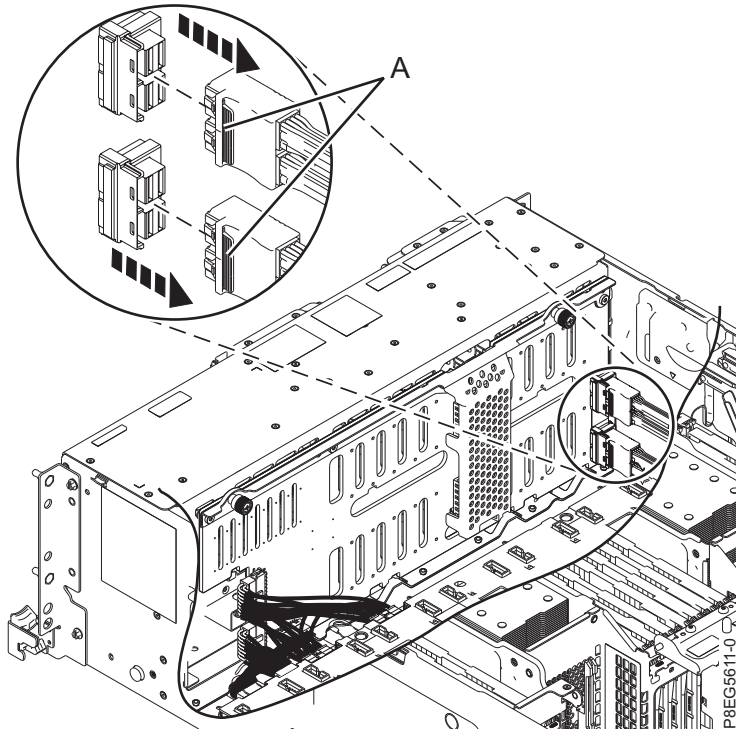

Figure 60. Disconnecting the front SAS cables
5. Label the front SAS cables, paying attention to the connectors each cable attaches to on the disk drive backplane and the SAS RAID internal adapter. Disconnect the front SAS cables from the disk drive backplane by pressing the latch (A) and unplugging the cable as shown in Figure 60 on page 65.